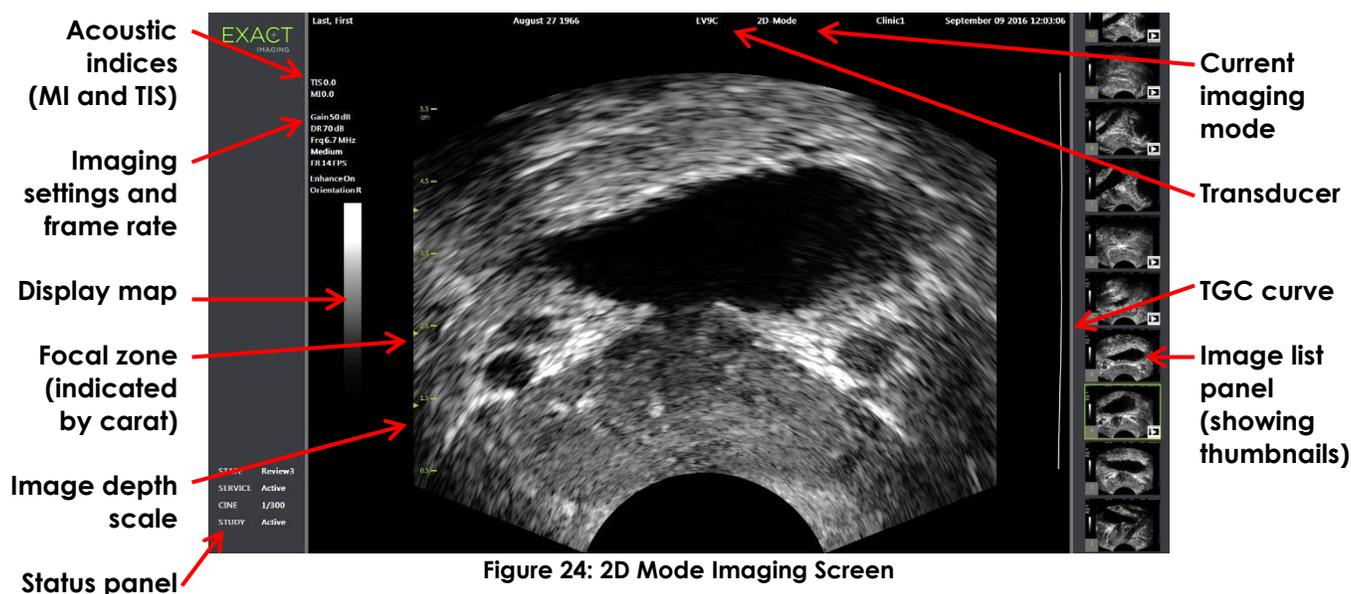

Figure 24: 2D Mode Imaging Screen
- Imaging settings as indicated in Figure 24